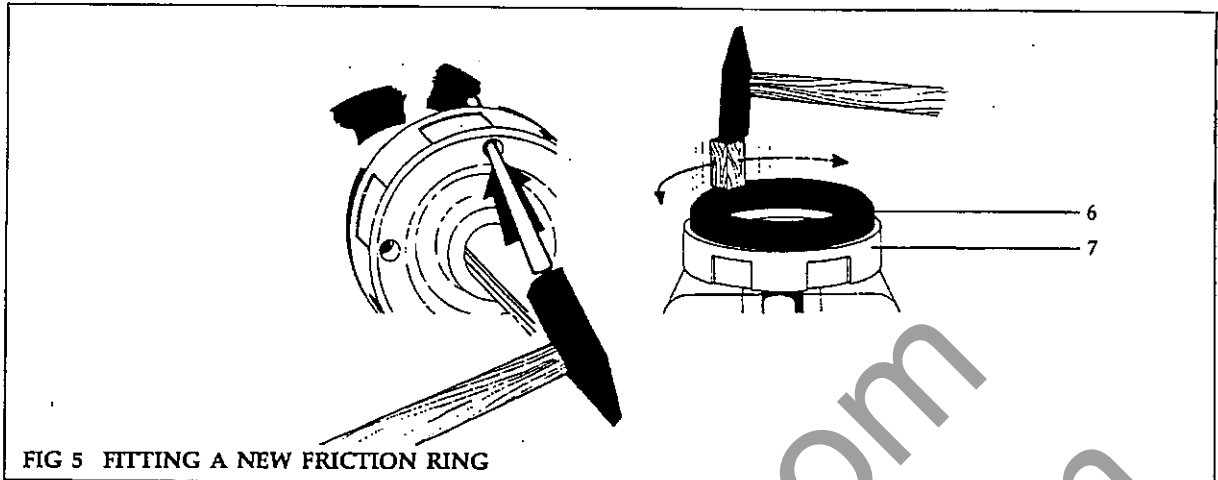

FIG 5 FITTING A NEW FRICTION RING
If the drive slips; the friction ring in the unit is either oily, or worn, and will require cleaning or replacement, (see Fig 5).
(5) Refit friction ring into unit (fitting instructions are supplied with a new ring). (see Fig 5).
(6) Reassemble unit drive elements and casing, ensuring that the friction ring is centred on the cone (see Note in Motor Attachment and Cone Adjustment).
(7) Secure unit casing elements with the setscrews (4) removed on disassembly.
(8) If removed on disassembly: Refit motor to drive mounting slide (2) on the unit using the four setscrews (1).
(9) Top up gearbox lubricant (Wadkin Ref.) to sightglass level. The sightglass is on the right side viewed from the infeed end.